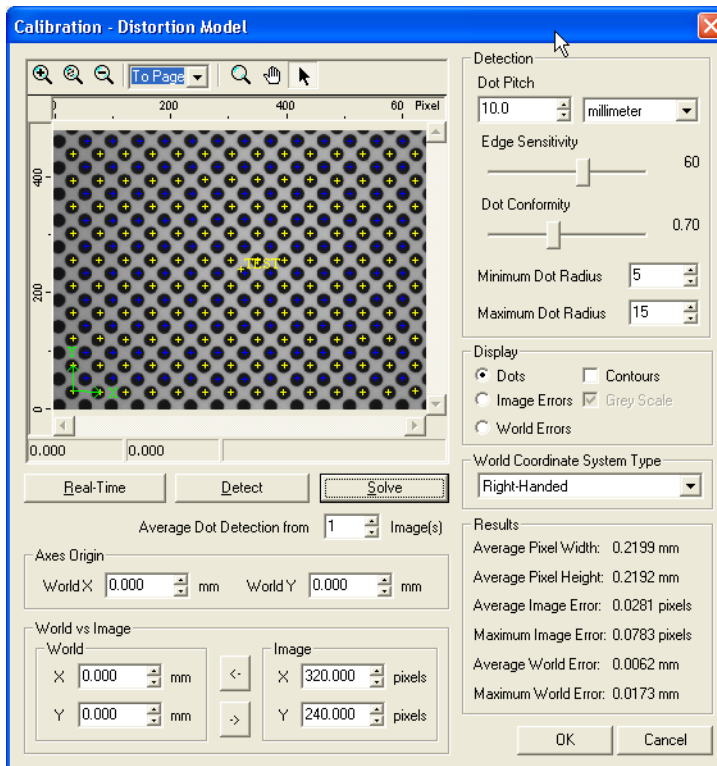

Figure 227 Distortion Model Dialog
2. Click **Show Calibration Dialog** to open the Distortion Calibration dialog illustrated in Figure 227.